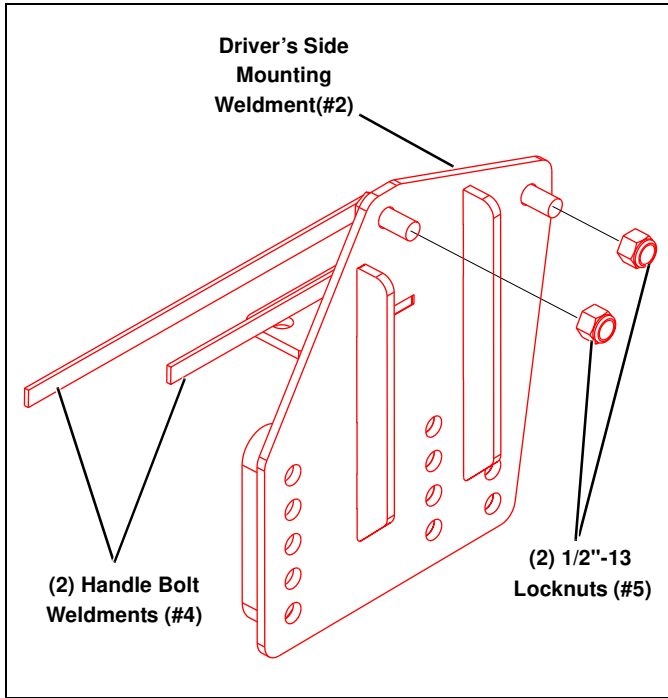

Figure 4
3. Attach the Driver & Passenger Side Mount Weldments (#2 & 3) to the frame. Insert the Tow Hook Bolts into the Mount Weldments (#2 & 3) and back into the bottom of the frame. Feed (2) 1/2"-13 x 1-1/4" Handle Bolt Weldments (#4) into the front of the frame and out the previously drilled holes. Fasten the Handle Bolts with (2) 1/2"-13 Locknuts (#5). Cut off any excess handle sticking out of the frame rail. (See Figure 4.)